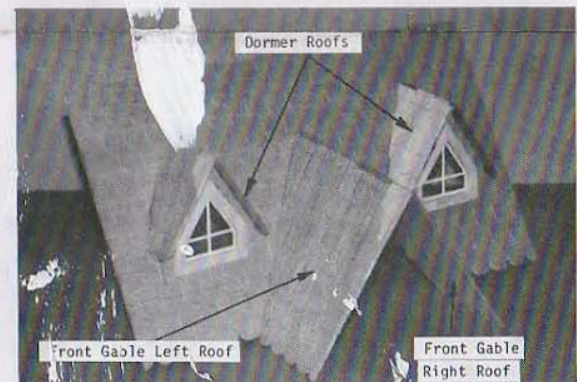

Figure 16
17. Locate **Front Gable Left and Right Roofs, and Dormer Roofs** (AH-2,3,9). Interlock and glue to Front Roof as in Figure 16.